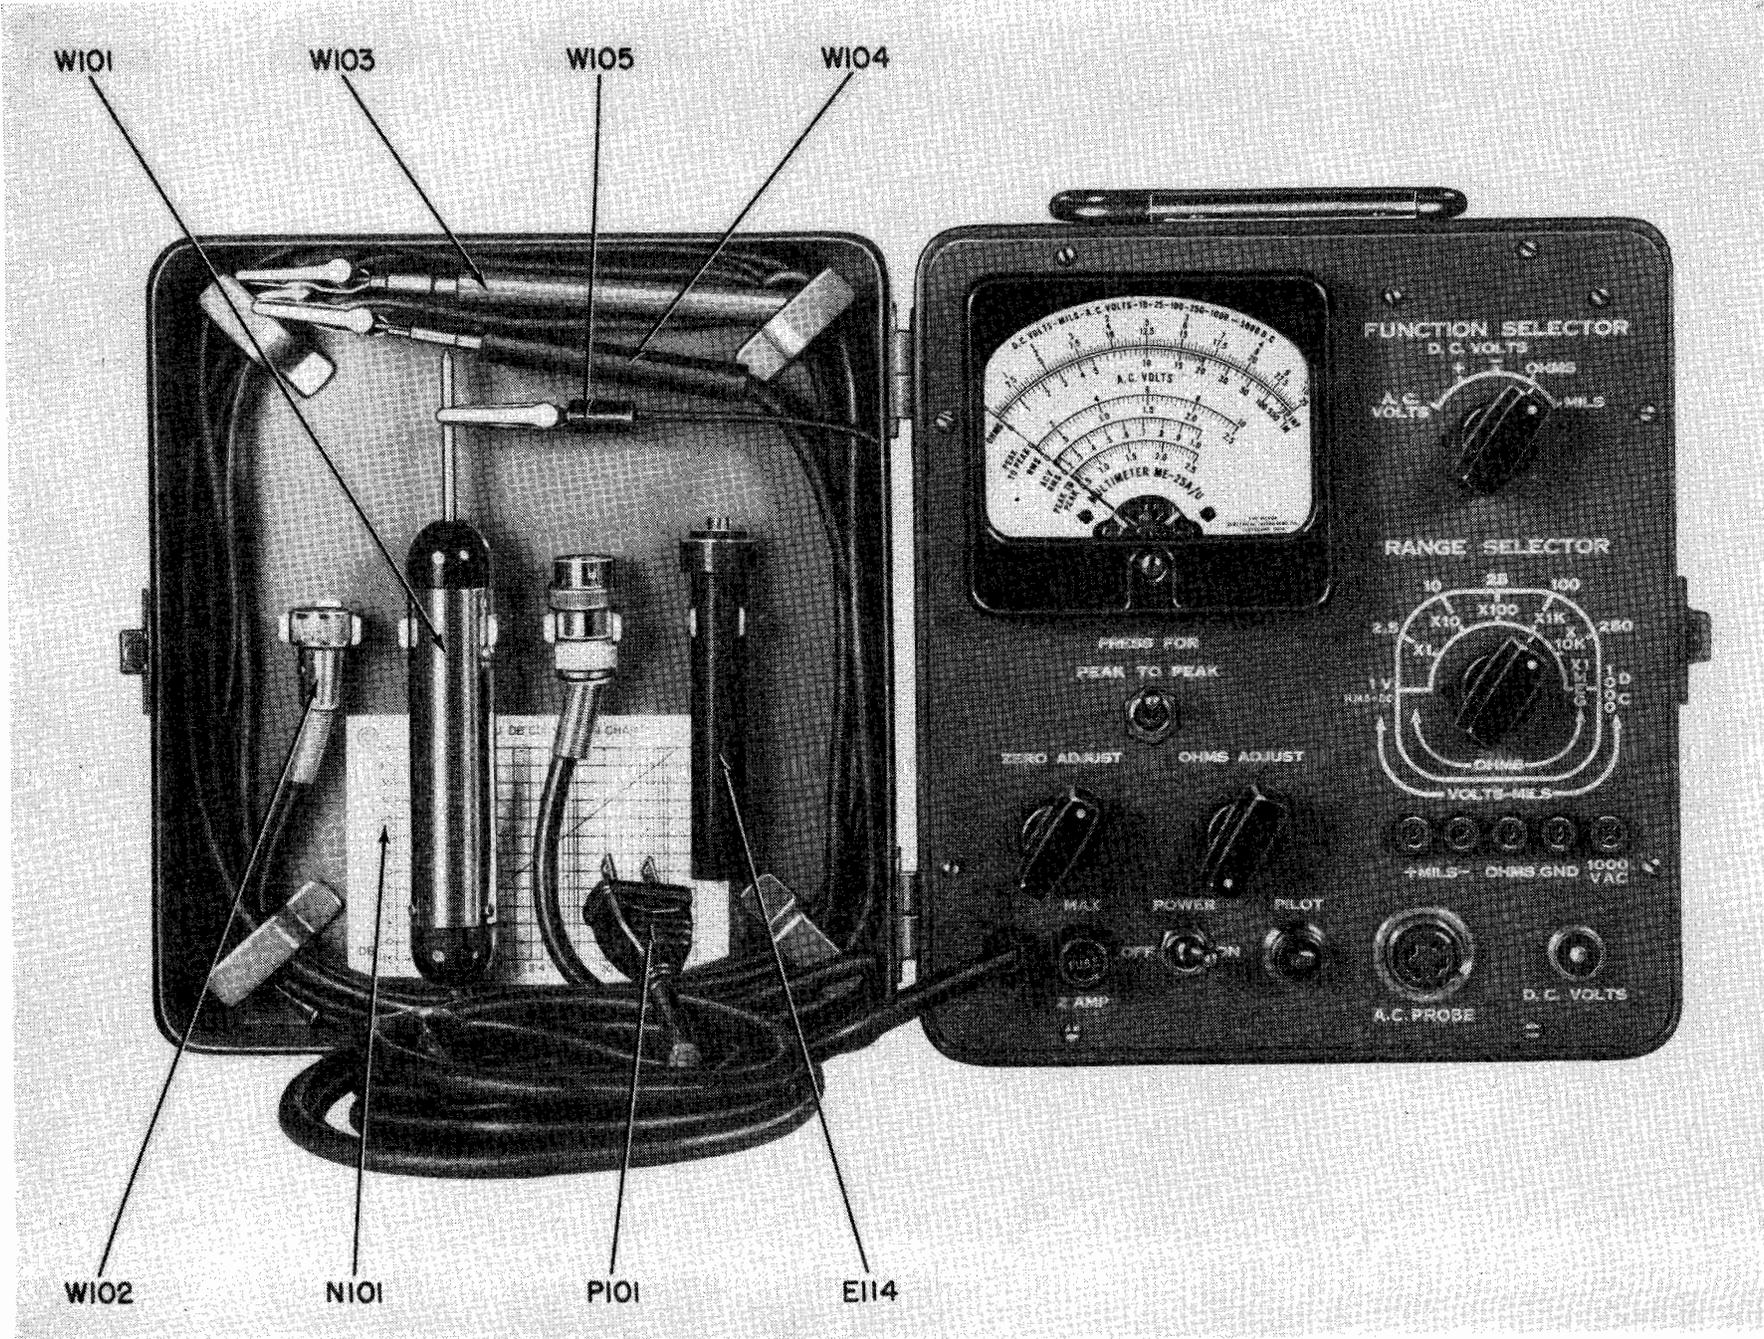

Figure 3-3. Multimeter ME-25A/U with Cable Compartment in Cover
*a. HOUSING.*—Multimeter ME-25A/U is housed in a case consisting of the main body with a cover secured in place by slip hinges and one draw bolt. Suitable brackets and fasteners are secured within the cover to provide for storage of the operating cables, AC probe, DC extension probe and line cord. A rubber gasket is also provided between the main body and the cover. (See Fig. 3-3)
(1) With a continuity checker, test of cables W103, W104 and W105 should show the resistance to be approximately zero ohms.
(2) Check W102 with an ohmmeter, and the resistance from the center contact of the cable connector to the prod end should be approximately 3.3 megohms. Infinity resistance should be found between the outer part of the cable connector and the inner connection.
(3) Cable test probe W101 can be checked with an ohmmeter and should be approximately 6 ohms between pins 1 and 4. There should be infinity ohms between pin 3 and any other pin. There should be zero ohms between pin 4 and the cable connector outer shell.
(4) With the POWER switch turned ON, an ohmmeter check of the resistance between the two plugs of the AC line supply should show approximately 25 ohms. If it should vary substantially from this value or show no continuity, inspect fuses and wiring for cause of the trouble.
*d.* REPLACING OPERATING CABLES.—When replacing the test leads and power cord in the cable compartment provided in the cover of Multimeter ME-25A/U, the following procedure should be followed (See Figure 3-3):
(1) Place the instrument face up with the cover hinged onto the case.
(2) Secure the probe section of W101 to the second clamp from the left on the cover, and insert the cable under the corner brackets in a counter clockwise direction. The male plug end of this cable is secured to the third clamp from the left.
(3) Next, place the connector end of test lead W102 in the first clamp on the left and wind the cable around the corner brackets in a counter clockwise direction.
(4) Secure the prods of test leads W103 and W104
(5) Connect the alligator clip of W105 to the prod tip of W101 as shown in Figure 3-3, and place Adapter
*a.* The test leads, AC probe and cable assembly, high voltage adapter and AC power line cord are placed in the cover compartment, as shown in Figure 3-3, for storage and carrying. By removing the cover from the case the test leads are easily accessible for removal or replacement. The AC power line cord is permanently attached to the main panel.